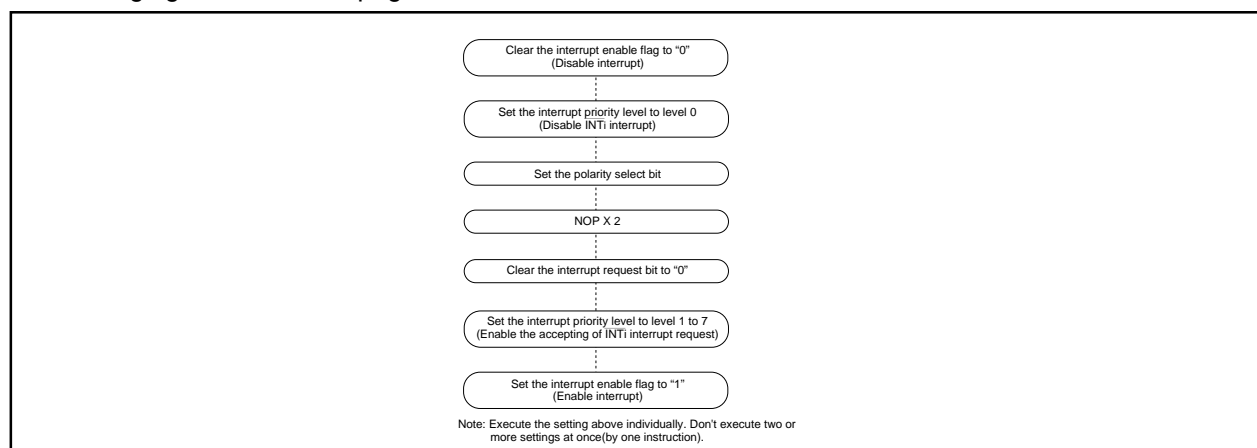

Figure 1.11.13. Switching condition of  $\overline{\text{INT}}$  interrupt request
- When the polarity of the  $\overline{\text{INT0}}$  to  $\overline{\text{INT2}}$  pins is changed, the interrupt request bit is sometimes set to "1". After changing the polarity, set the interrupt request bit to "0". Figure 1.11.13 shows the procedure for changing the  $\overline{\text{INT}}$  interrupt generate factor.